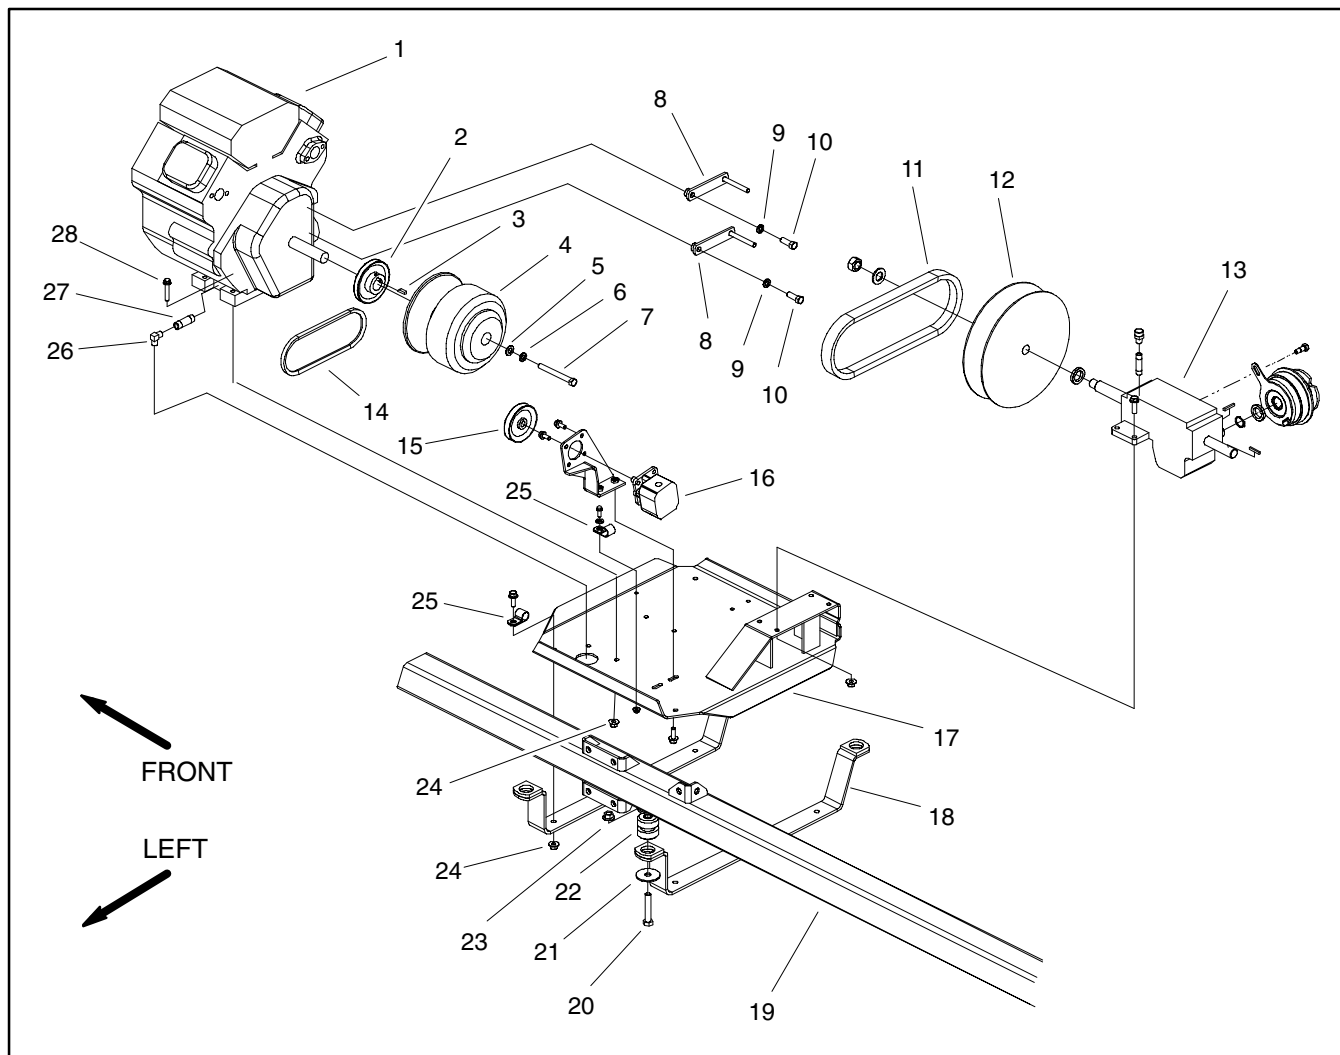

Figure 7
Removal (Fig. 7)
12. Remove engine mounting plate assembly from machine (Fig. 7 and 11):
B. Remove four (4) cap screws and flange nuts that secure the engine support straps to the frame.